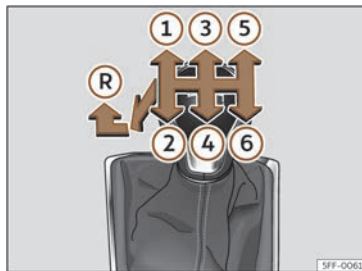

Fig. 114 Diagram of a 6-speed manual gearbox.
Gear positions are indicated on the gear lever >>> **Fig. 114**.
- With the gear lever in neutral, push it down, move it all the way to the left and then forwards to select reverse gear >>> **Fig. 114** (R).